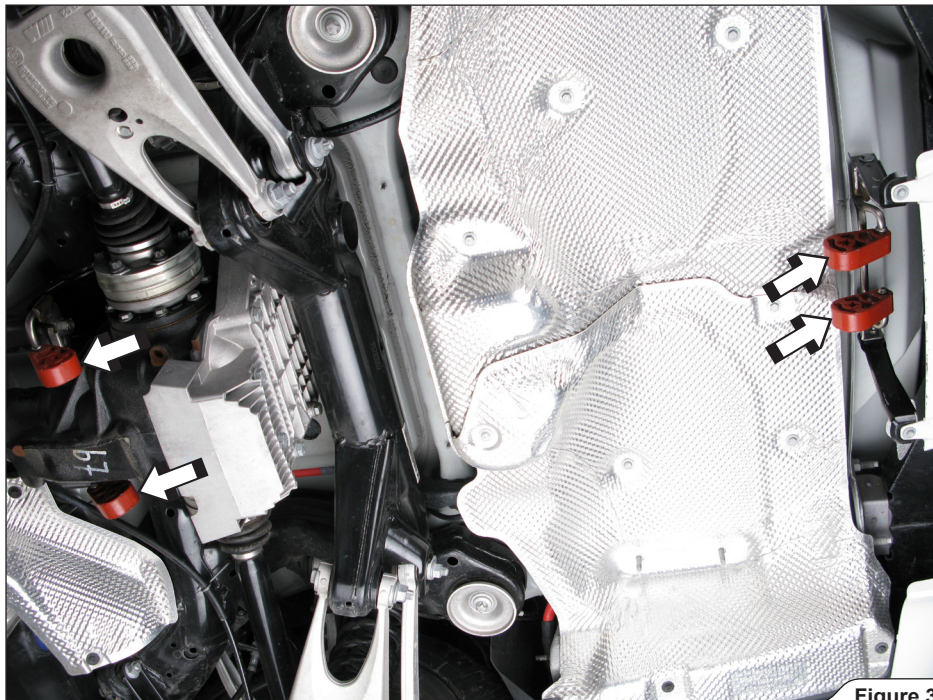

Figure 3
3. Unhook the marked rubber dampers and remove the stock muffler from the vehicle (**Figure 3**).